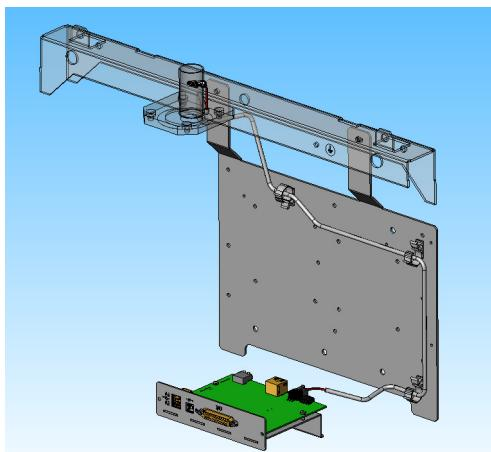

Figure 8: Flapper Box Wiring Harness Layout
14. Install the Flapper Box Wiring Harness, as shown (“Figure 8: Flapper Box Wiring Harness Layout”), utilizing the top two wire clips, only use bottom wire clip, if accessible.